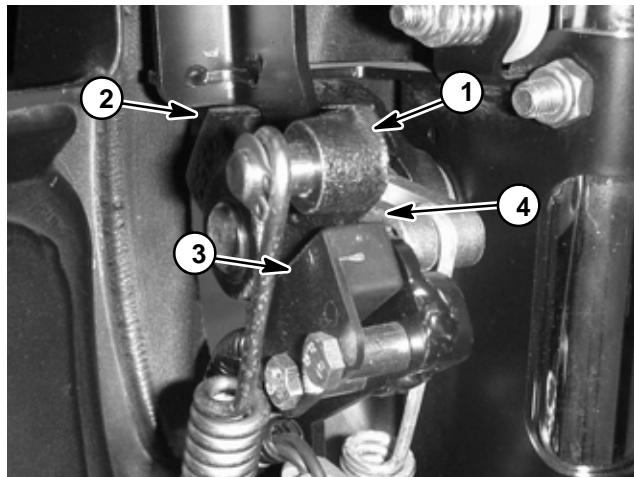

Figure 6
3. Hold traction lever against the neutral stop (Fig. 6).
4. Position switch to allow from 0.032" to 0.062" (0.81 to 1.58 mm) clearance between the traction lever and the interlock switch (Fig. 6).